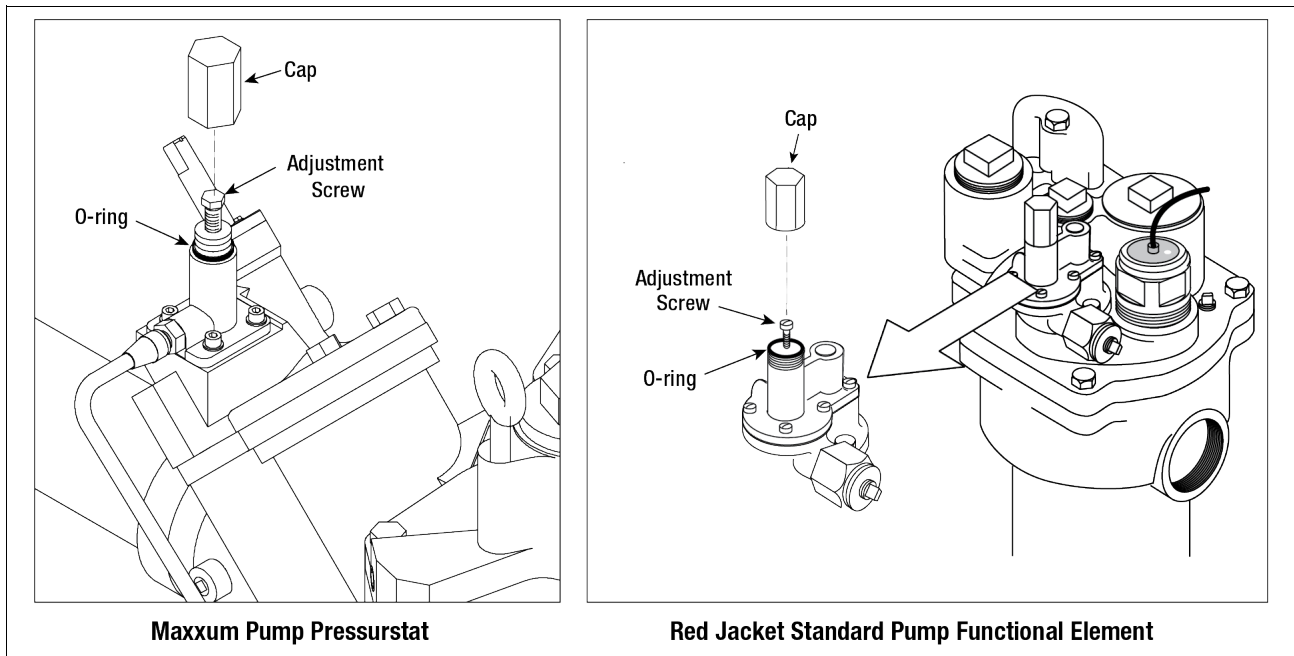

Figure 28. Functional Element (Red Jacket Standard Pump Shown)
- Unscrew the protective cap from the adjustment screw (Figure 28).